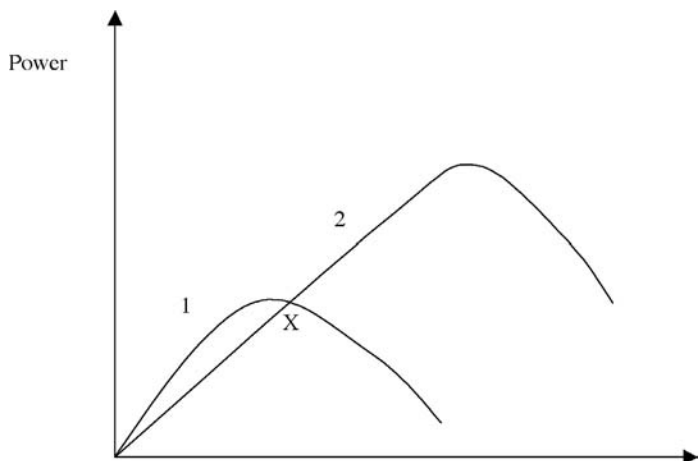

Figure 1. The power valve allows the power curve to be the sum of the best high (2) and low (1) rev set-ups
duct, permitting better passage of the exhaust gases. This helps the power curve to be the sum of the best high and low rev set-ups as shown in Figure 1.
(1) to the high rev one (2) exactly at the intersection point (X) shown in Figure 1.